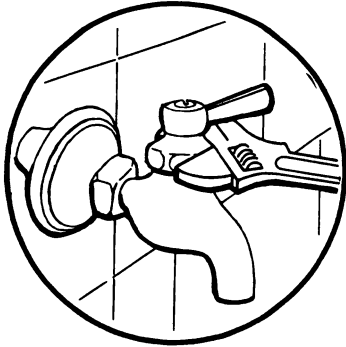

Fig. 6
6. Tighten the packing nut. (Fig. 6)